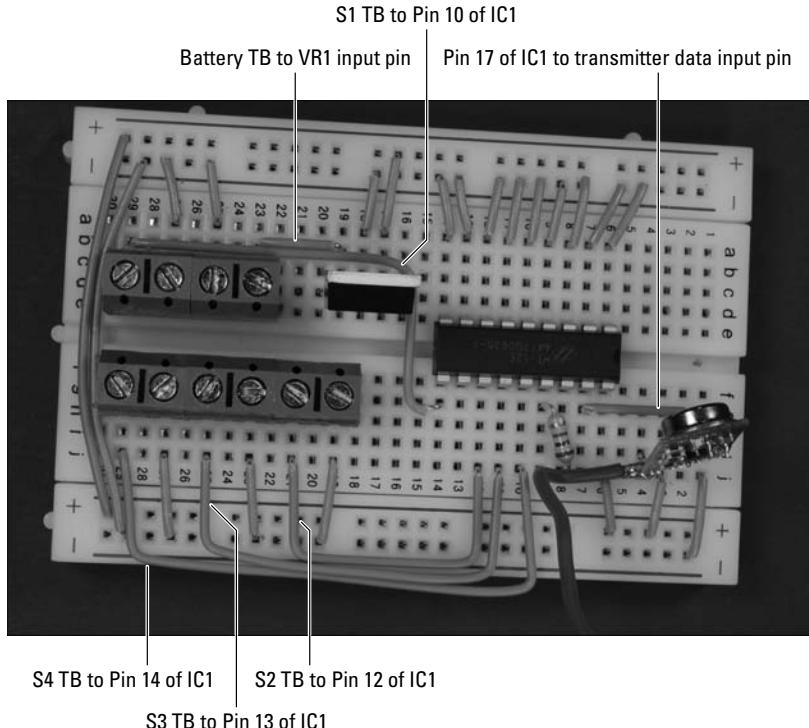

Figure 13-12:
6. Insert wires to connect the IC, voltage regulator, transmitter, and terminal blocks, as shown in Figure 13-12.